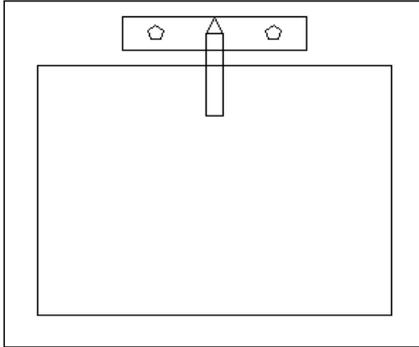

Figure 6-3: The completed sink, drawn with rectangles and polygons.
17. Turn off the grid to get a better look at the drawing. You have completed the sink, which should look like Figure 6-3. Save your drawing.